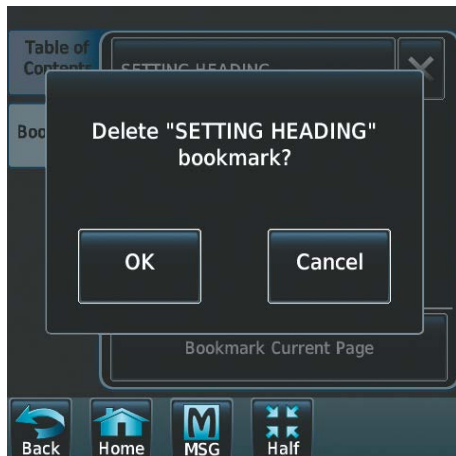

Figure 8-146 Delete Bookmark
- 4) Touch **OK** on the confirmation screen as in Figure 8-146.